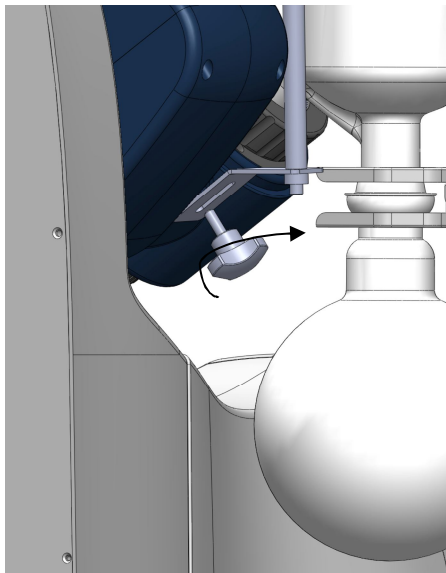

Figure 14
- Installing the vertical glassware condenser locking device (Figure 14). Use the transportation screw on the back of the appliance (a)